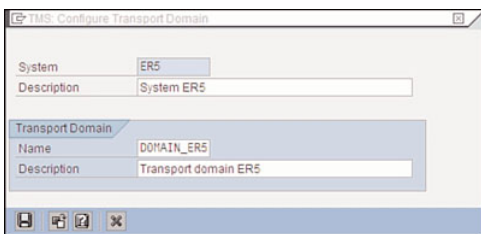

FIGURE 25.7 A simple transport domain is sufficient for test purposes.
1. Configure the Transport Management System (TMS) with transaction STMS. You may have to enter your company address to proceed. The completed transport domain is shown in Figure 25.7.